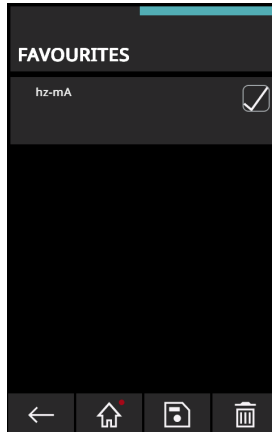

Figure 3-8: Favourite Tasks
3. To delete a **Favourite** task select the tick box for the task, as shown in Figure 3-8, and tap the **Delete**  icon. The screen will then show a screen prompt message for you to confirm the delete operation. To save a selected user task, tap the **Save**  icon: there will be a screen prompt message to save the task as a named filename. If the necessary task is not available as a default, you can use **CUSTOM TASK** to save a new task. Refer to Section 3.3.5.